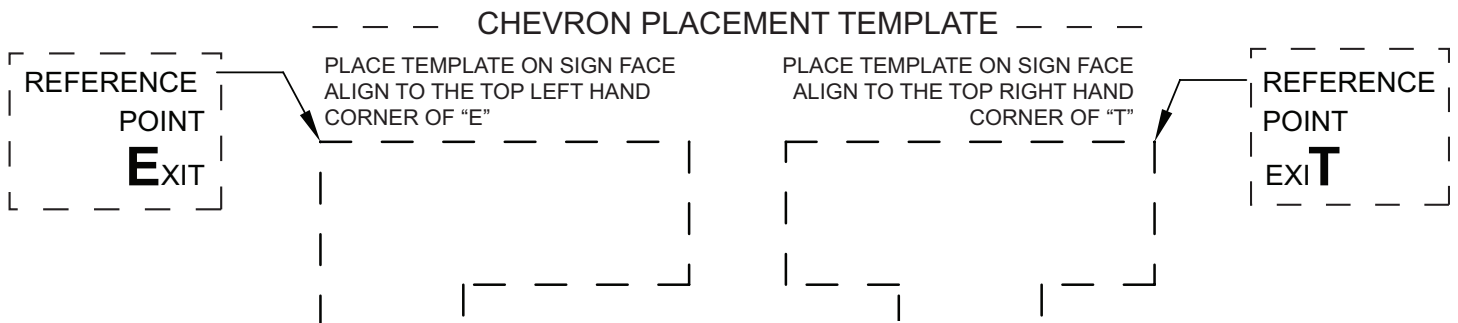

Figure 1
- a. Exit sign internal wiring is already pulled into the canopy and all wires are labelled. Connect AC supply per diagram provided (*Figure 1*). Remove mounting plate from canopy and secure mount plate to junction box. **Insulate unused wire! CAUTION! - Failure to insulate unused wire may result in a shock hazard or unsafe condition as well as equipment failure.**
1. For models OTE-SP, plug the battery into the circuit board per (*Figure 1*) self-powered sign.